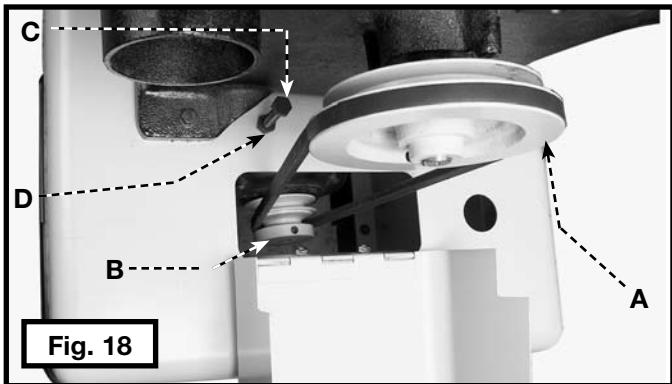

Fig. 18
1. Place the belt over the saw pulley (A) Fig. 18.
NOTE: The model 28-276 has a one-step pulley. The model 28-206 has a two-step pulley (Fig. 18).
2. Lift the motor and place the other end of the belt around the motor pulley (B) Fig. 18. The weight of the motor will provide the correct belt tension.
6. Turn bolt (C) Fig. 18, clockwise, until the dampening cap contacts the motor.
7. Back the bolt (C) Fig. 18 out approximately 1/4" and tighten the nut (D) against the top of the stand to hold bolt (C) in place.